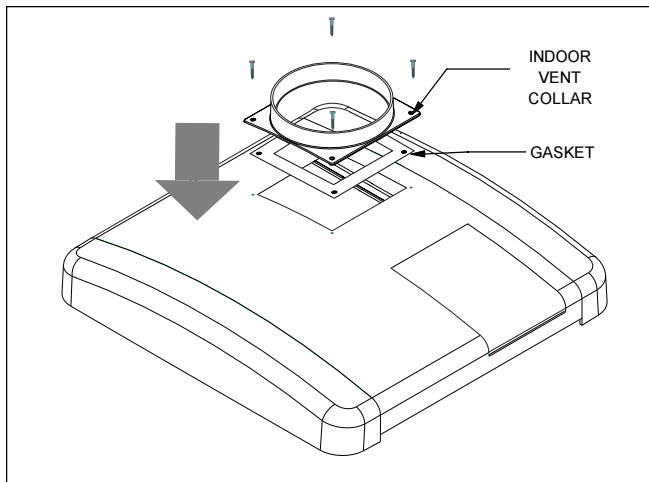

Figure 4. Vent Collar Assembly for Indoor Installation.
2. Replace the grill with the vent collar (see section 4 for kit number). Place the vent collar and gasket over the hole and fasten it in place with the 4 screws provided. Be sure that all components are properly aligned (See Figure 4).